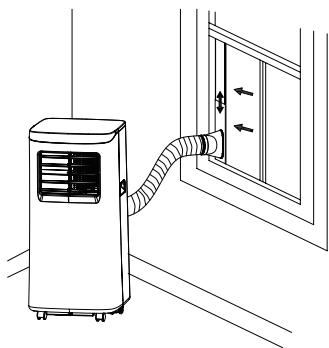
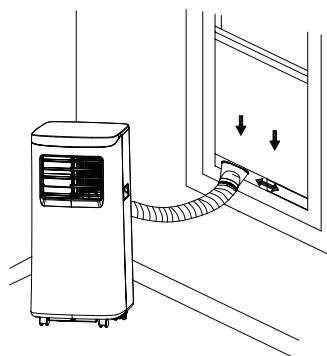

Figure5
Figure6
2)Elongate the exhaust pipe and snap the flat end of the exhaust pipe joints into the hole of the window sealing plate assembly (as shown in Fig.5 and Fig.6).